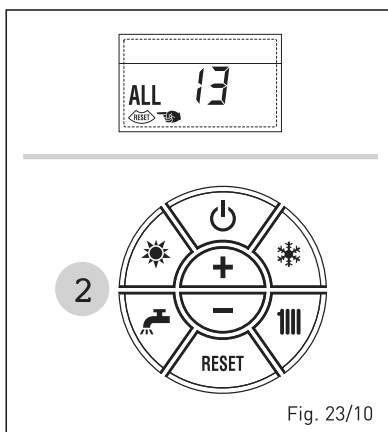

Fig. 23/10
- **ANOMALÍA SONDA HUMOS “ALL 14” (fig. 23/11)**